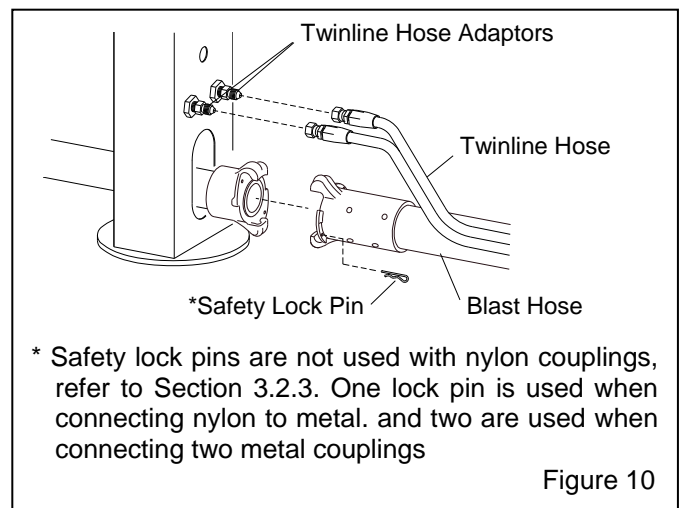

Figure 10
**3.2.5** Attach the ends of the 50-ft. twinline hose to the lower adaptors in the bulkhead fittings on the front leg as shown in Figure 10. Either side of the twinline hose can be attached to either fitting.